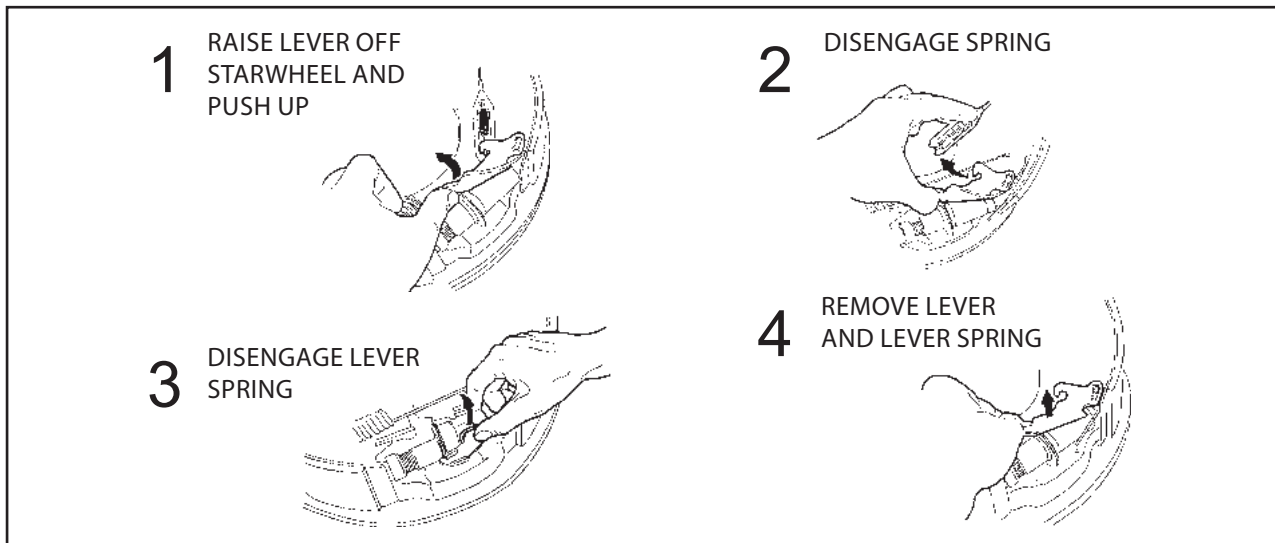

Figure 7. Adjuster Lever and Adjuster Spring Removal
6. Detach adjuster cable from adjuster lever, slide cable off of adjuster cable guide, and remove the cable retaining tab if so equipped. See Figure 7.
7. Remove the adjuster lever and the adjuster spring. (These parts will need to be placed on the new replacement shoe, along with the adjuster lever mounting pin, in the opposite order removed.) See Figure 7.
7. Detach adjuster cable from the adjuster lever and slide adjuster cable off the adjuster cable guide, remove retaining tab if so equipped. See Figure 7.